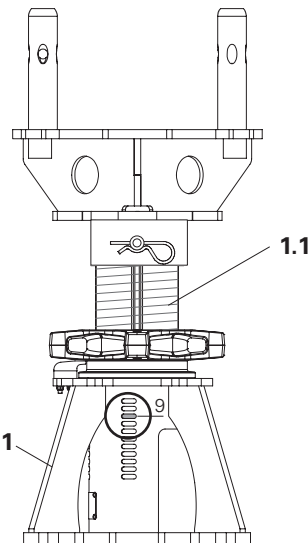

Fig. A2.04a
- Unscrew the spindle tube (1.1) until the red pressure piece is visible in the "Slot 9". (Fig. A2.04a)